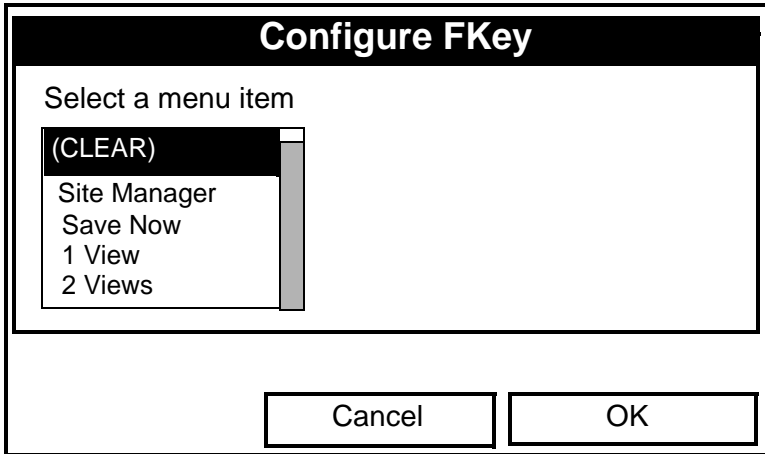

Figure 6-9: The Configure FKey Window
3. Use the [▼] or [▲] arrow keys to move to the desired FKey (1, 2 or 3) on the menu. Press [ENTER]. The Configure FKey window opens, as shown in Figure 6-9 on the next page.